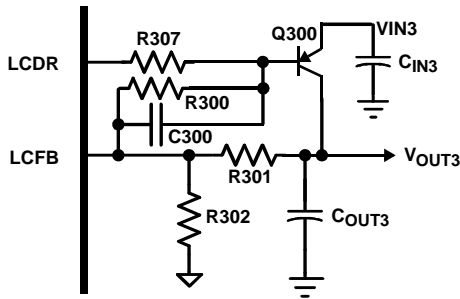

FIGURE 16. LINEAR COMPENSATION COMPONENTS
The linear regulator controller controls an external pass element, typically a PNP bipolar junction transistor; see Figure 16 for reference. The error amplifier in the ISL6442 has approximately 72dB (V) of gain. The linear regulator circuit must be compensated such that the gain of the internal error amplifier crosses through 0dB with a slope of 20dB/decade. This allows easily predictable phase response through the 0dB point. The output circuit has a dominant pole determined by the output capacitance and the combination of the sense resistor and the output resistance of the BJT